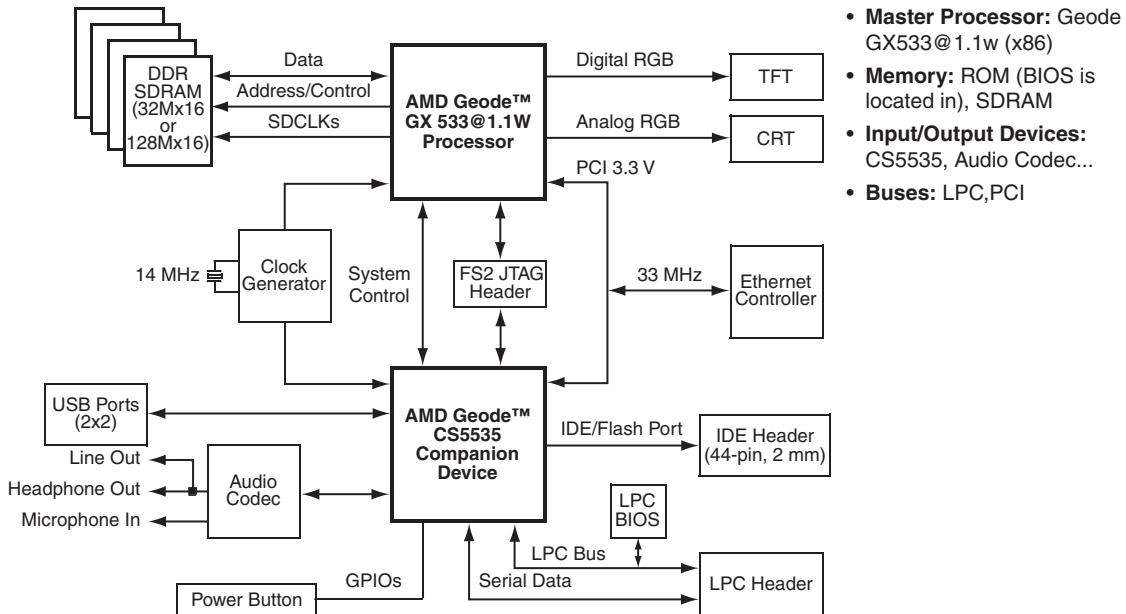

Figure 1.5a: AMD/National Semiconductor x86 reference board.^[1.5]
- *Block diagrams*, which typically depict the major components of a board (processors, buses, I/O, memory) or a single component (a processor, for example) at a systems architecture or higher level. In short, a block diagram is a basic overview of the hardware, with implementation details abstracted out. While a block diagram can reflect the actual physical layout of a board containing these major components, it mainly depicts how different components or units within a component function together at a systems architecture level. Block diagrams are used extensively throughout this book (in fact, Figures 1.5a–e later in this chapter are examples of block diagrams) because they are the simplest method by which to depict and describe the components within a system. The symbols used within a block diagram are simple, such as squares or rectangles for chips and straight lines for buses. Block diagrams are typically not detailed enough for a software designer to be able to write all the low-level software accurately enough to control the hardware (without a lot of headaches, trial and error, and even some burned-out hardware!). However, they are very useful in communicating a basic overview of the hardware, as well as providing a basis for creating more detailed hardware diagrams.
While board designs can vary widely, as demonstrated in the examples of Figures 1.5a–d, all the major elements on these embedded boards—and on just about any embedded board—can be classified as either the master CPU(s), memory, input/output, or bus components.